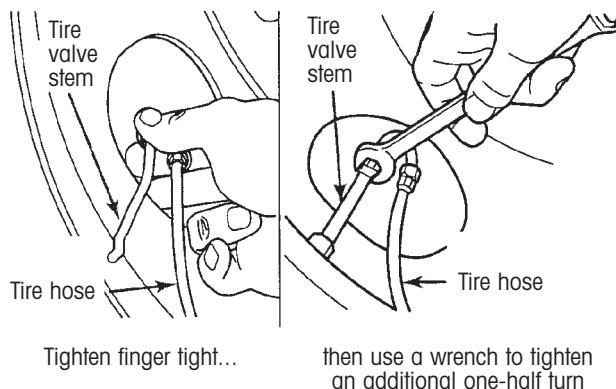

Figure 7. Attaching the tire hose to the tire valve stem
2. Attach the tire hose(s) to the tire valve stem(s) and tighten finger tight (figure 7).
3. Using a $\frac{7}{16}$ -inch wrench, tighten the tire hose / valve stem connection an additional one-half turn (figure 7). **Do not overtighten this connection.** The hose connections are tight enough when moving the hose back-and-forth does not cause the connection to move.